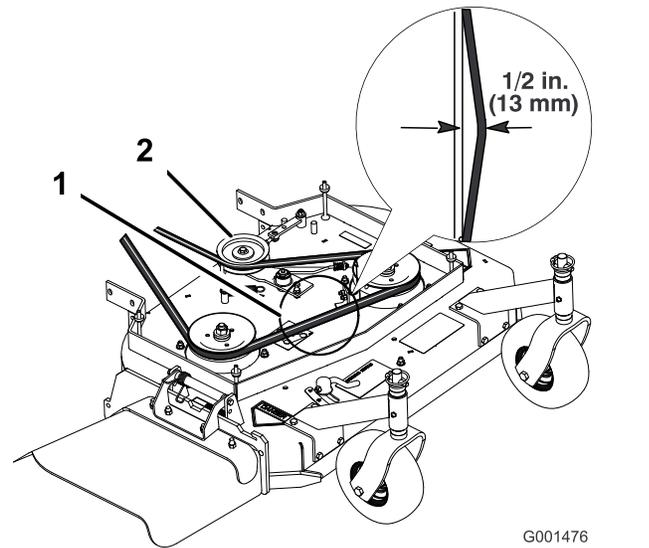
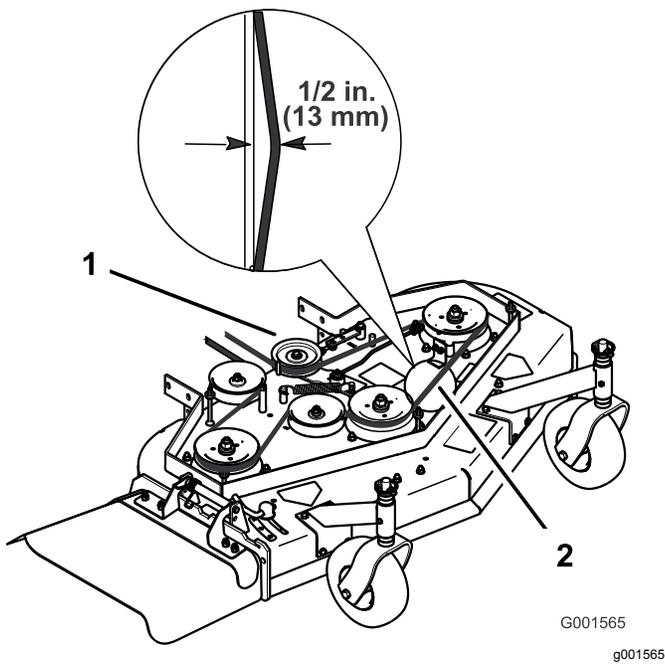

Figure 42
Figure 43
- Note:** The proper mower belt tension is 44 to 67 N-m (10 to 15 ft-lb) with the belt deflected 13 mm (1/2 inch) halfway between the pulleys (Figure 42 or Figure 43).
3. Loosen the locknut on the turnbuckle (Figure 42).
4. Rotate the turnbuckle toward the rear of the mower to increase the tension on the belt. Rotate the turnbuckle toward the front of the mower to decrease the tension on the belt (Figure 42).
Note: The proper mower belt tension is 44 to 67 N-m (10 to 15 ft-lb) with the belt deflected 13 mm (1/2 inch) halfway between the pulleys (Figure 42).
Note: The proper mower belt tension is 44 to 67 N-m (10 to 15 ft-lb) with the belt deflected 13 mm (1/2 inch) halfway between the pulleys (Figure 43).